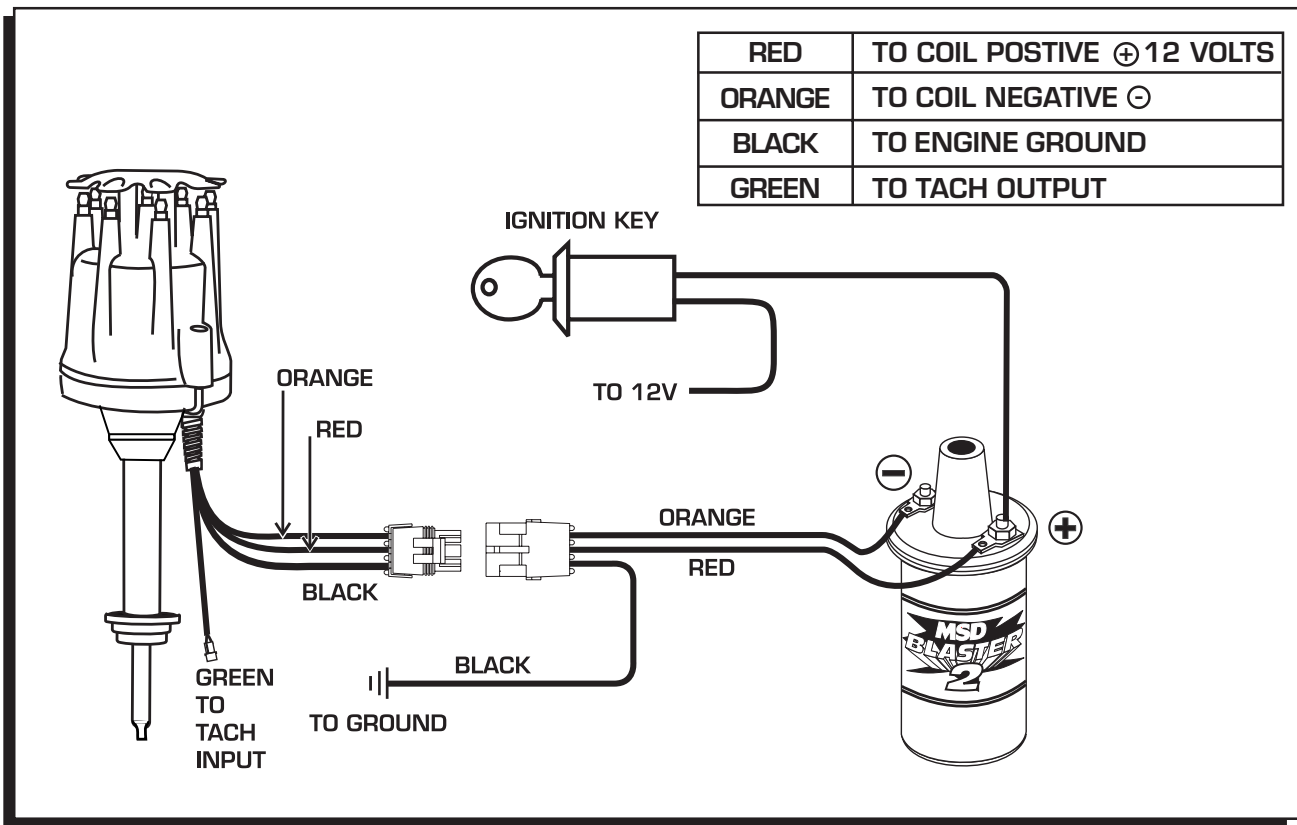

Figure 6 Wiring the Ready-to-Run Chevrolet Distributor.
11. Proceed to wiring the distributor as shown in Figures 6 and 7. Review the starting and tuning tips information and install the Timing Tape as shown on page 7 before starting the engine.